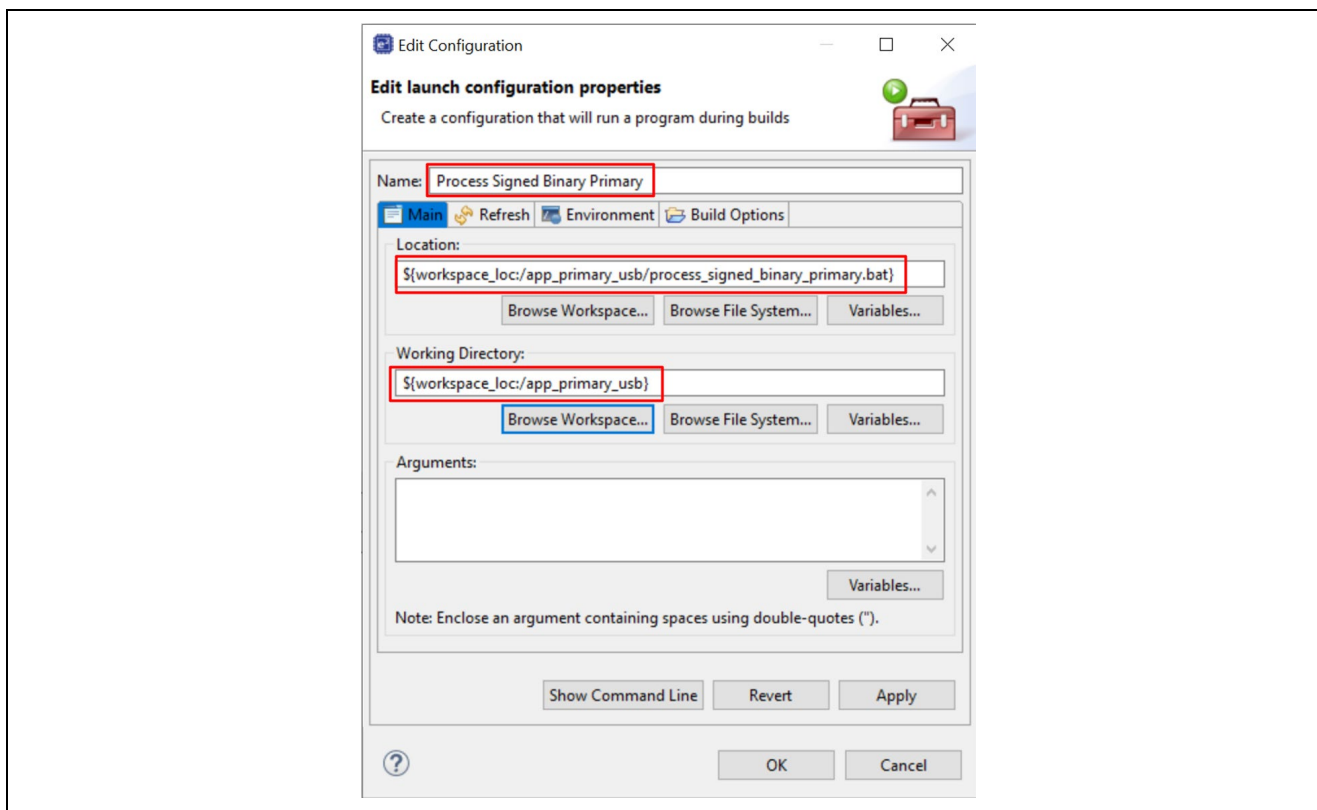

Figure 51. Configure the Custom Builder for the Primary Application
2. Follow section 4.7 Prepare for Production Support to create the new **Builder**. The finished configuration should look like Figure 51. Configure the Custom Builder for the Primary Application.